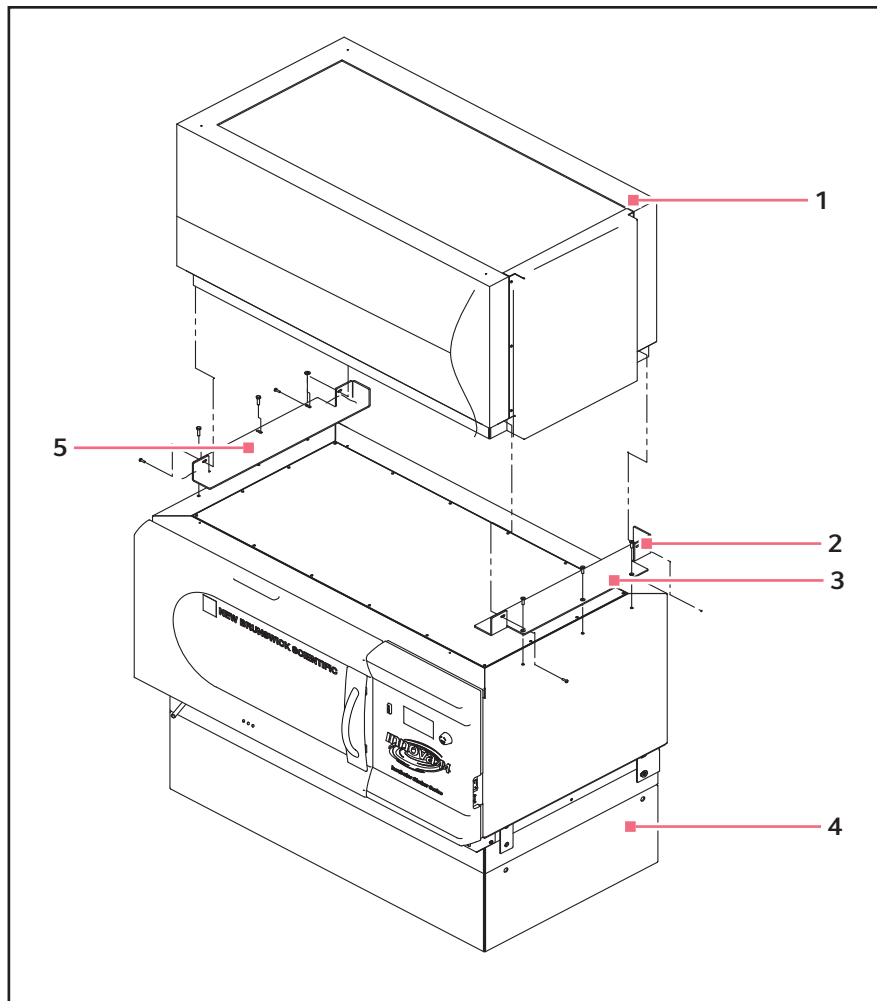

Fig. 6-6: Install 4400/4430 to 44/44R Stacking Kit
3. With reference to the figure below (see Fig. 6-6 on p. 28), remove the screws installed at the top of the bottom unit, on the two side edges.
4. As indicated (see Fig. 6-6 on p. 28), secure the bottom of the upper shaker to the mounting brackets with the screws, lockwashers and washers provided. Be sure to tighten the right side first, then secure the left side.